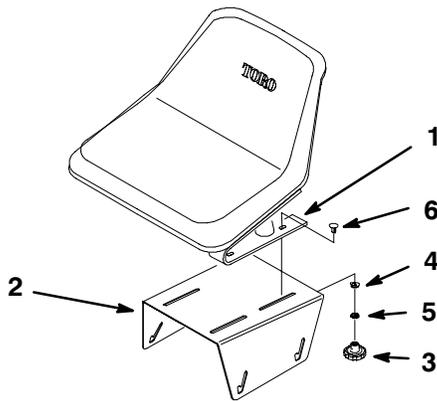

Figure 2
1. Loosely secure seat and seat spring to seat base with (4) carriage bolts, flat washers, external tooth lockwashers and knobs (Fig. 2). Washers must be positioned between seat base and knobs with the flat-washer on top of the external tooth lockwasher.